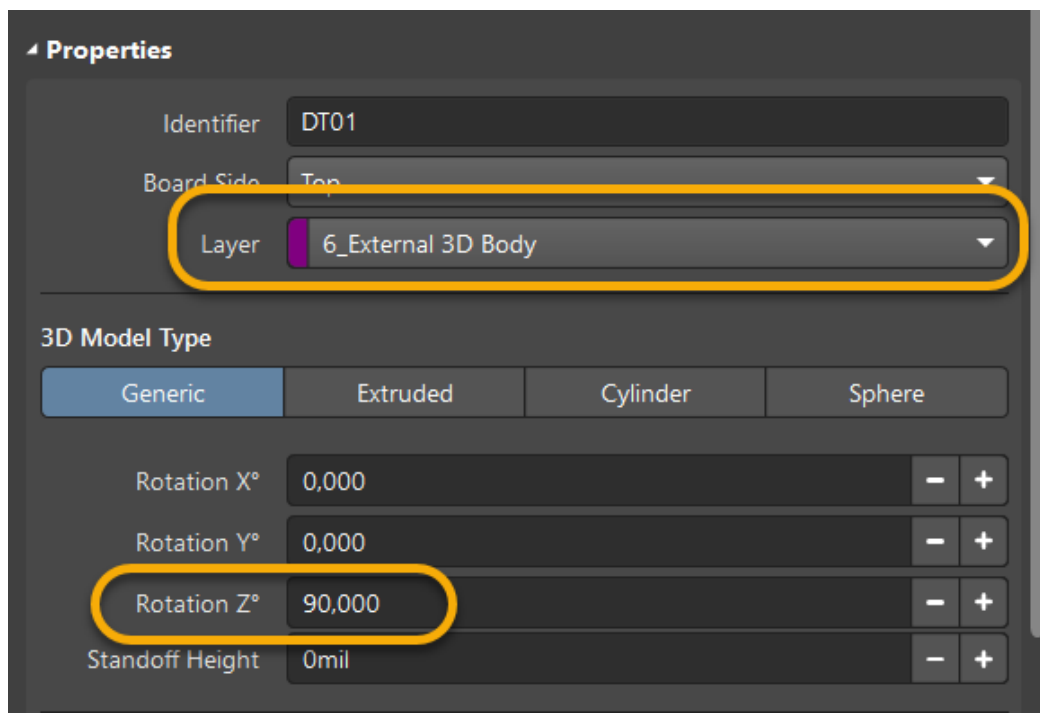

Figure 1. Change Model Rotation in 3D Body Dialog
14. In the *Properties* panel, follow the steps below, as shown in Figure 1: